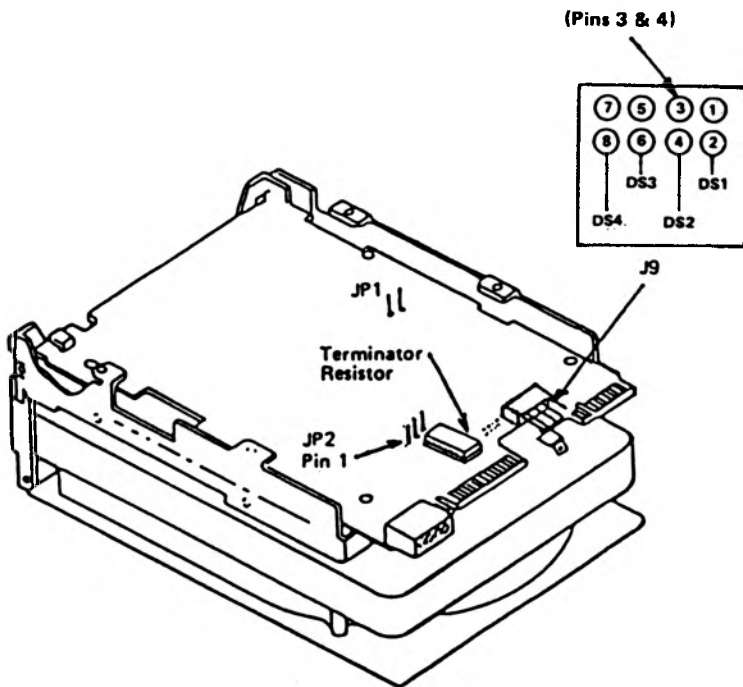

Figure 3
3. The hard disk drive is always configured as Drive Select 2. To do this, install a jumper to connect pins 3 and 4 on J9 as shown in Figure 3.
4. If this is to be the only hard disk drive, be sure that the terminator resistor is installed as shown in Figure 3. If there is a hard disk drive already installed, this already installed drive has a terminator resistor and should be left untouched. Be sure to remove the terminator resistor from the new drive.